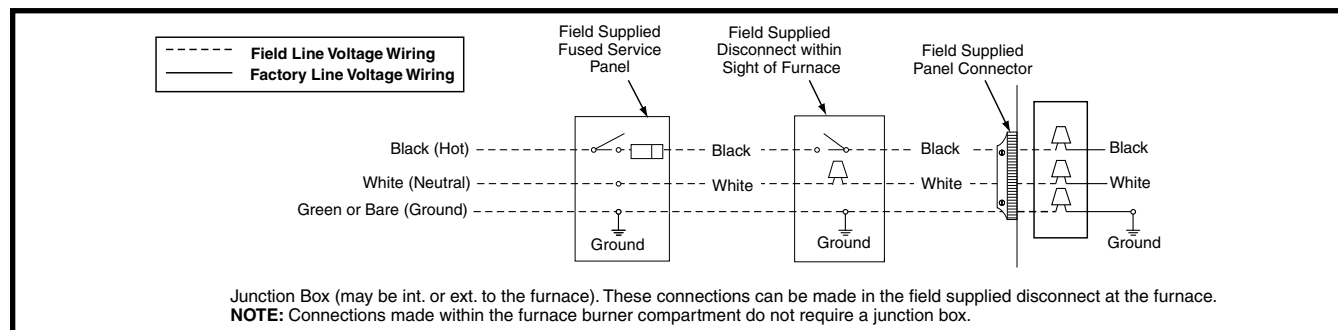

Figure 14. Line Voltage Field Wiring
- An electrical disconnect must be installed readily accessible from and located within sight of the furnace. See Figure 14 or the wiring diagram label
- Proper line voltage polarity must be maintained in order for the control system to operate correctly. Verify the incoming neutral line is connected to the white wire and the incoming “hot” line is connected to the black wire. The furnace will not operate unless the polarity and ground are properly connected as shown in Figure 14